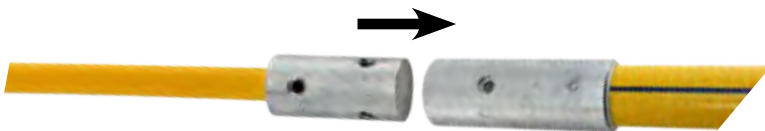

Figure 1
1. Insert the aluminum end of the hook assembly into the coupling on the end of the fiberglass pole. (Figure 1)